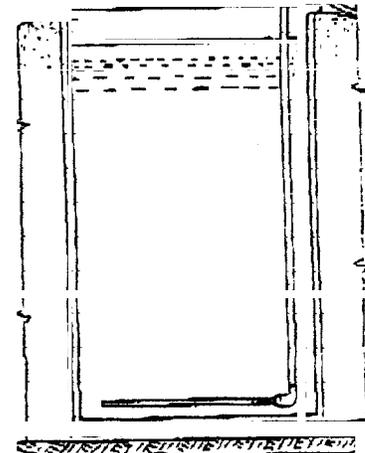

Figure 2
**Figure 2.** Fill the 55 gallon drum approximately 3/4 full of water insert Volcano Rod (as in figure 2); plug into a 12-volt grounded outlet with ground fault interrupter. Heating will begin instantly. Do not energize the unit unless it is immersed in water. This will void the warranty